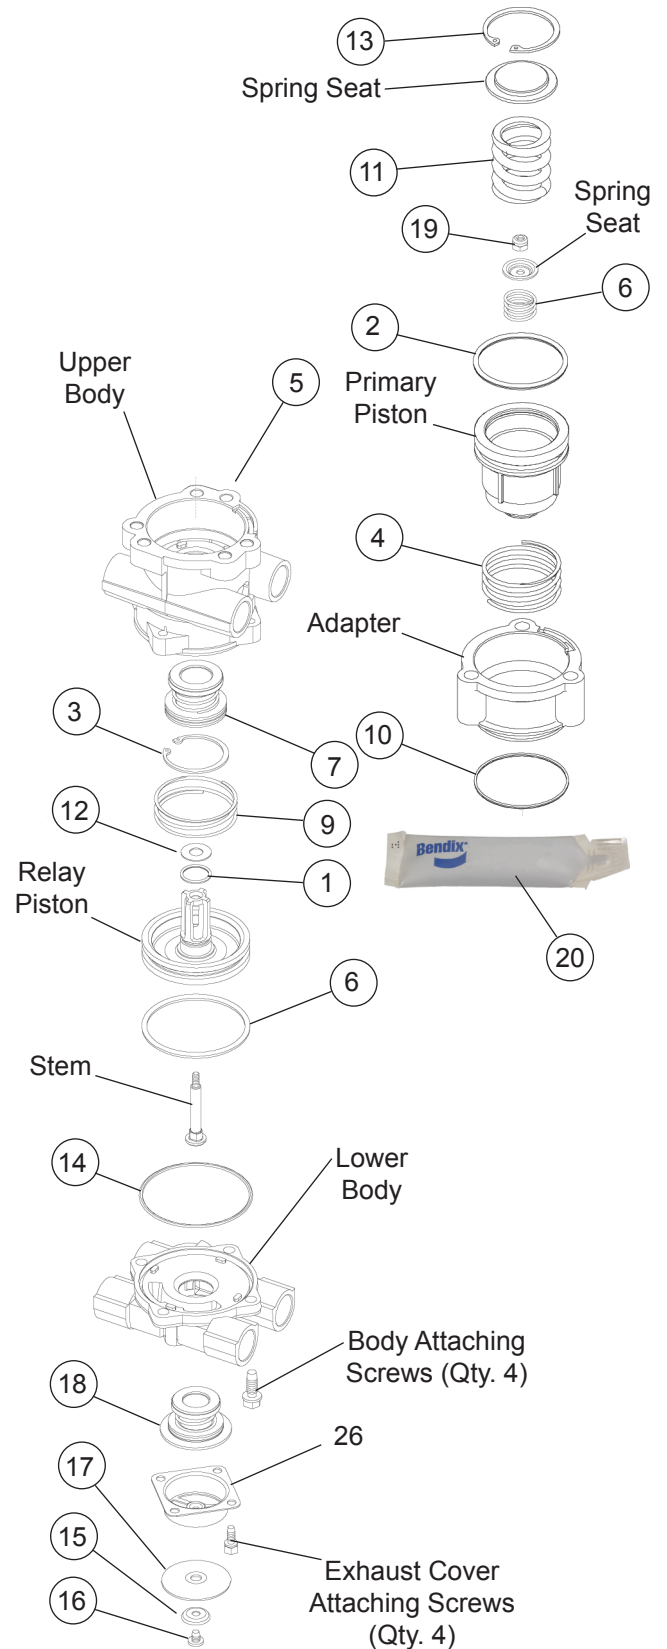

Figure 2 – Brake Valve - Exploded View
Refer to Figure 2 for item numbers referenced in parenthesis.
Before proceeding with the disassembly, refer to *Figure 2* and note that the lock nut (19) and stem are used to contain the primary piston return spring (4), stem spring (8), and the relay piston spring (9). The combined force of these springs is approximately 50 lbs and care must be taken when removing the lock nut as the spring forces will be released. It is recommended that the primary piston and relay piston be manually or mechanically contained while the nut and stem are being removed.
- Using a 3/8" wrench, hold the lock nut (19) on the threaded end of the stem. Insert a screwdriver to restrain the stem, remove the lock nut (19), spring seat, and stem spring (8).
- Remove the adapter and the o-ring (10). Remove the primary piston from the adapter and o-ring (2) from the primary piston.
- Remove the relay piston, relay piston spring (9), and primary piston return spring (4) from the upper body. Use care so as not to nick the seats.
- A small washer (12) will be found in the cavity of the lower side of the primary piston.
- Remove the retaining ring (3) securing the primary inlet and exhaust valve assembly (7) in the upper body and remove the valve assembly.